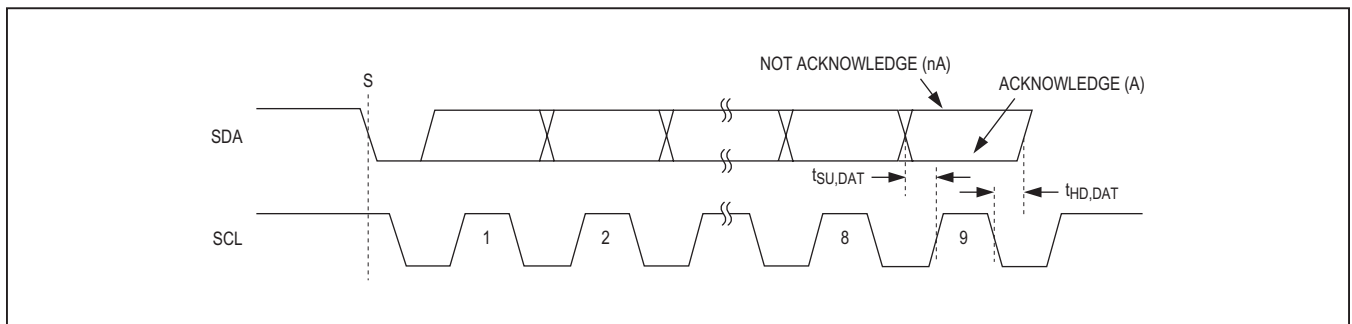

Figure 7. I²C Acknowledge (A) and Not-Acknowledge (nA)
Both the I²C bus master and the MAX8973A (slave) generate acknowledge bits when receiving data. The acknowledge bit is the last bit of each nine-bit data packet. To generate an acknowledge (A), the receiving device must pull SDA low before the rising edge of the acknowledge-related clock pulse (ninth pulse) and keep it low during the high period of the clock pulse (Figure 7).